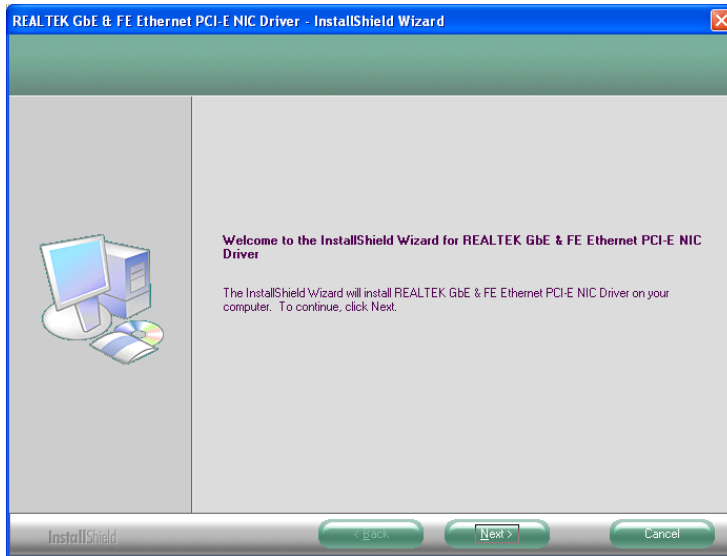

Figure 6-15: LAN Driver Welcome Screen
- Step 3:** The **Welcome** screen in Figure 6-15 appears.